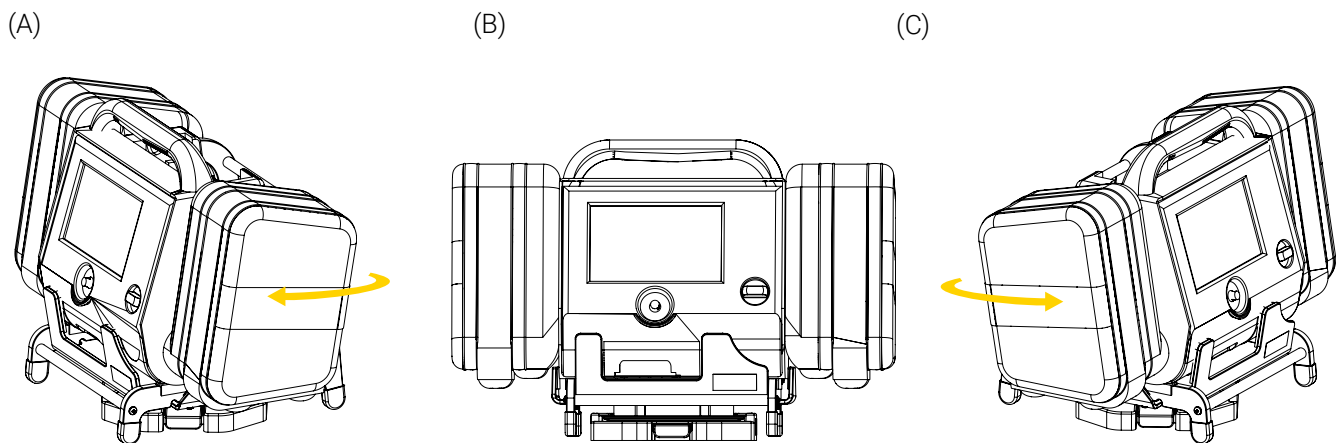

Figure 5: Operating the support bracket in the Standard Surface Base
4. Turn the support bracket clockwise or counterclockwise to the desired position (Figure 5).